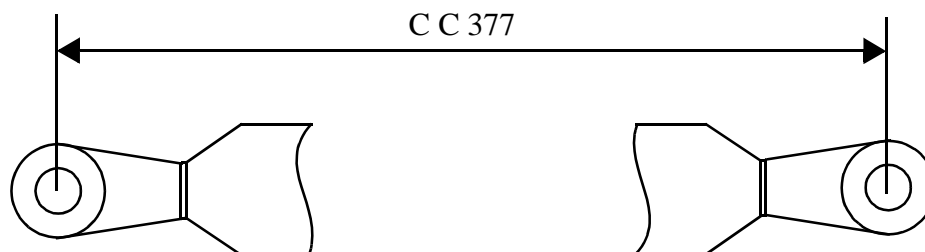

Figure 2 Distance between the attachment points.
6. Before installing new springs, make sure that the distance between the attachment points is correct, see Figure 2. Lock the link heads using Loctite 242 or 243.